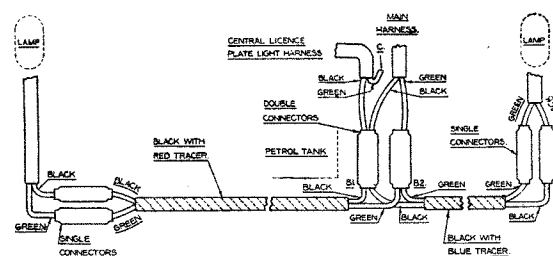

FIG. 2
4. Re-wire in accordance with Fig. 2. Connect green cables to green, and black to black throughout. As shown in the diagram, the double connectors B1 and B2, fitted to the new extension harness with red tracer, now take the place of the two single connectors previously discarded. Cable end marked C should be cut off to about 1" and may be taped back along braiding, as this cable is not required in circuit. On some models the other extension harness, with blue tracer, is not required, i.e. where the junction is in such a position that the right hand lamp can be fitted directly to the double connectors without undue tautness. Keep wiring well clear of the exhaust pipe.